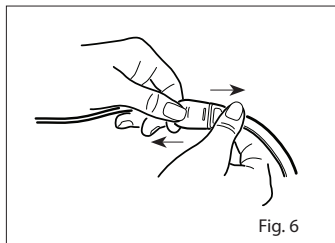

Fig. 6
1. Refer to **Fig. 6**. Pull firmly on the sensor connector to remove it from the patient cable.